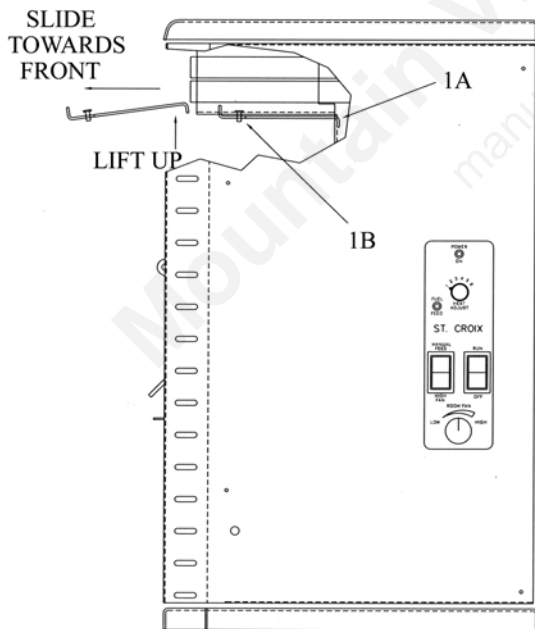

Figure 5
4. Remove the baffle and clean the ashes that accumulate on a regular basis. Once a month or sooner, depending on the quality of fuel being used (See figure 5 on page 9.)
Figure 5 shows how the baffle is removed from the stove. Clean the baffle on a regular basis. Frequency of cleaning depends on amount of fuel being burnt and the quality of the pellets. Fuel with low ash content is recommended. **Failure to clean the baffle can cause the stove to become plugged with fly ash.**